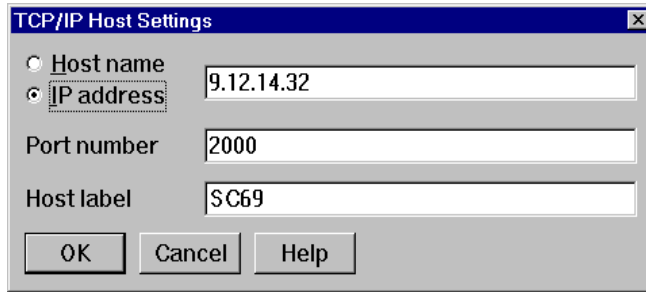

Figure 4-4 Connection to the Host server
3. Define the TCP/IP connection to the Host server, as shown in Figure 4-4 on page 53.